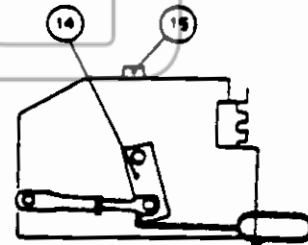
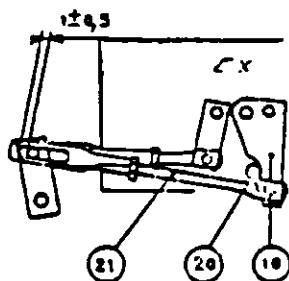

Fig. 13
Fig. 15
To test tripping of breaker by the release crank, place a wire hook as shown in Fig. 13 and hold while applying a momentary signal of 12-18 volts D.C. to the tripping actuator EX. When release unlatches, slowly allow release crank to withdraw until breaker trips open.
a) Adjustment. Insert wire hook as shown in Fig. 13 and hold release crank (14) while applying momentary signal of 9 - 18 volts DC to the tripping actuator EX. When release unlatches, slowly allow release crank to withdraw to tripped position shown in Fig. 15. With the release in the tripped position and the crank (10) resting against stop (20), adjust link (21) to allow 1 ± 0.5 mm (0.039 ± 0.020 inch) clearance. Press the local tripping pushbutton (23) while adjusting screw (24) to effect resetting of the release. A distinct click will be heard when the release crank latches. Unscrew one turn to insure a margin of safety in resetting.